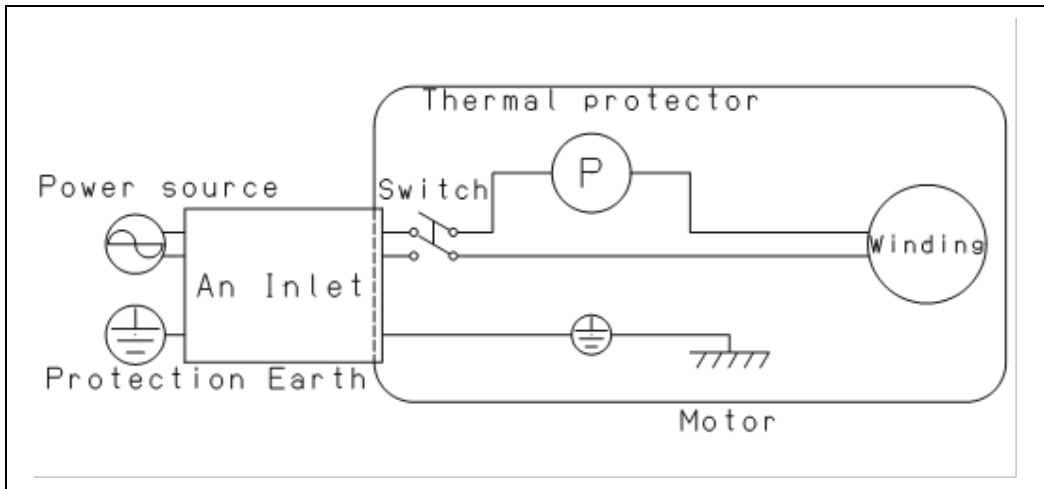

Figure 11 Electric wiring diagrams
Before being put into service (refer to Figure 11), close the leak valve (B), open vacuum valve (A) to the inlet port then turn the power switch to “ON”. Then the pump starts being to exhaust.
When the pump stops after rotating for a few seconds, open leak valve (B) (refer to Figure 11) and continuous operation may become possible. After the pump has warmed up, close leak valve (B) and return to ordinary operation.